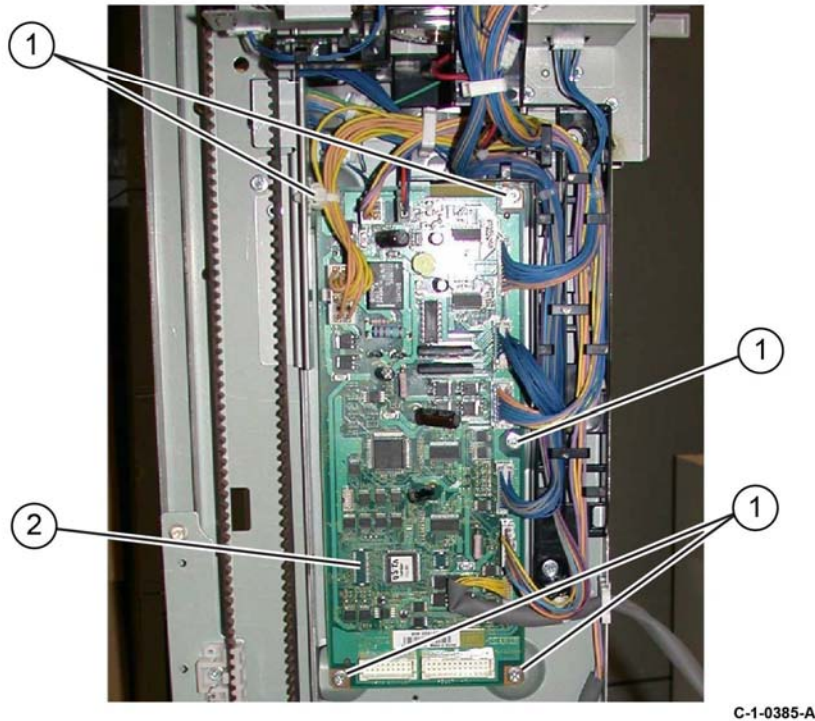

Figure 1 Finisher PWB removal
3. Remove the finisher PWB, Figure 1:
- b. Remove the five screws (1).
- c. Remove the finisher PWB (2).